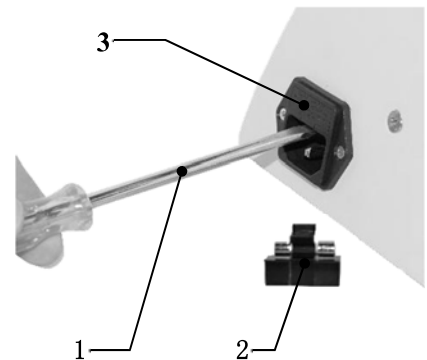

Fig.22
2. Remove the fuse holder 2 with a flat screwdriver 1 or any other tool as shown in the figure, remove the damaged fuse, and replace a new one. Replace the fuse holder into the power input socket of the main unit, as shown in Fig. 22.